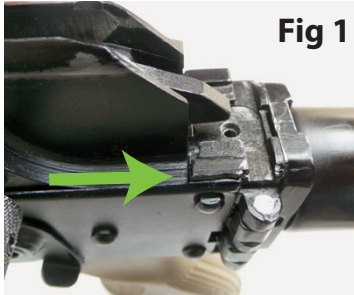

Fig 1
1. Pull without any recoil system the bolt carrier until the stopping surface **Fig 1**.